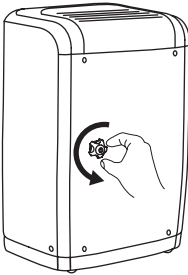

fig. 1
1. Unscrew the drain cap on the back side of the unit. (fig.1)